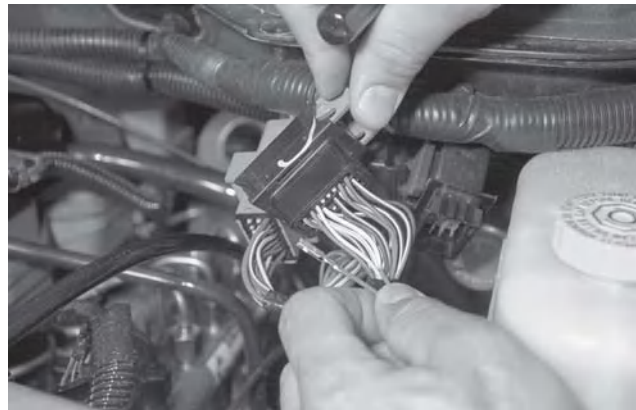

Fig. 14c
- d. Strip electrical tape from the connector's harness as needed. Approximately 3 inches from the end of the pin, strip ½ inch of insulation from the switched 12 volt wire to prepare the wire for splicing. Take care to not damage the wire strands. (see figure 14c)
- e. Center splice the solid grey wire from the exhaust brake harness to the switched 12 volt connector wire. (see figure 14c)
- b. Center splice the exhaust brake harness's grey wire to the Grey wire with pink stripe in the G connector, cavity 14 or where 12 volt switch power was found on page 5. (see figure 14c)